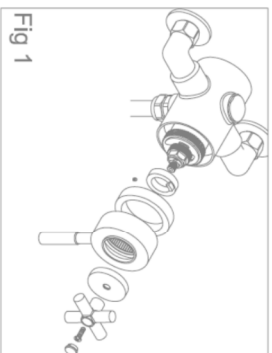

Fig 1
2. Remove the cap on the regulator handle. Undo screw and pull the handle from the mixer body. Remove the indice from the flow control handle and undo the grub screw. Remove the flow control handle from its spline. Undo screw and pull the stopper from the mixer body. Fig 1.